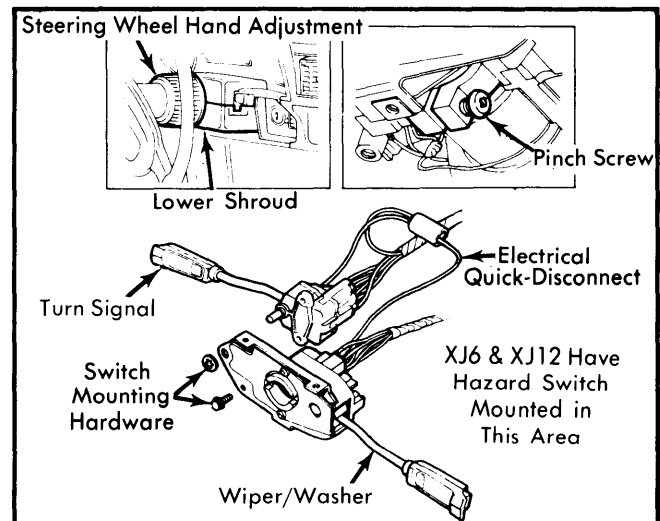

Fig. 2 Exploded View of XJS Combination Switch
2) Remove upper shroud screw from bracket on column. Loosen pinch screw holding switch assembly to column. See Fig. 2. Separate shroud from switch assembly. Remove switch mounting screw. Separate ground at electrical quick-disconnect. Separate turn signal and wiper/washer switches.